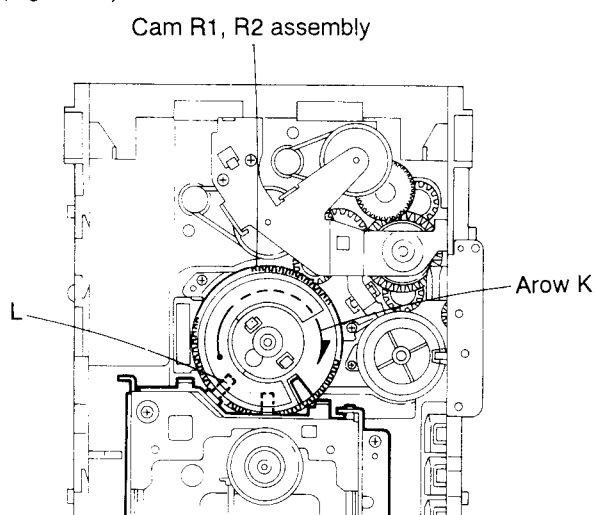

Fig. 5-25
■ Removing the CD mechanism (See Figs. 5-25 and 5-26).
1. For dismounting only the CD mechanism without removing the CD mechanism assembly, align the shaft (L) of the CD mechanism assembly to the position shown in Fig. 5-25 while turning the cam R1 and R2 assembly in the arrow direction (K).